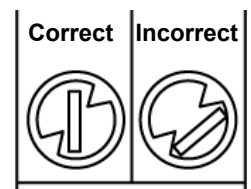

Fig. 1
- From the outside, guide the outside deadlock assembly through the installation holes. Insert the flat spindle through the center hole and into the key cylinder. (Fig. 1)
- On the inside of the door install the deadlock over the flat spindle (Fig. 1) with bolt extended toward the jamb. Insert the two machine screws through the deadlock and draw together.